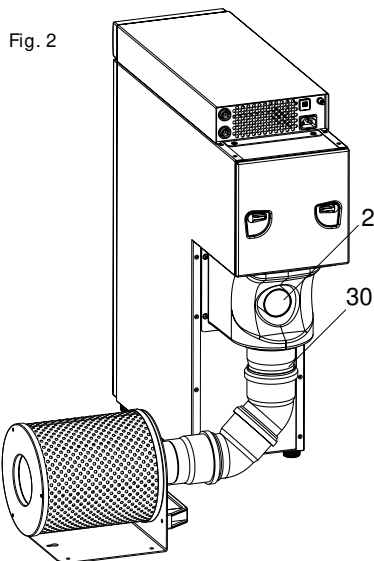

Fig. 2
- If this is not possible, the diffusor can be removed and the exhausting air can be guided with a DN75 hose or pipe (Fig.2). Therefore use the optional exhaust-adaptor RD72/DN75 O.No. 896/1103